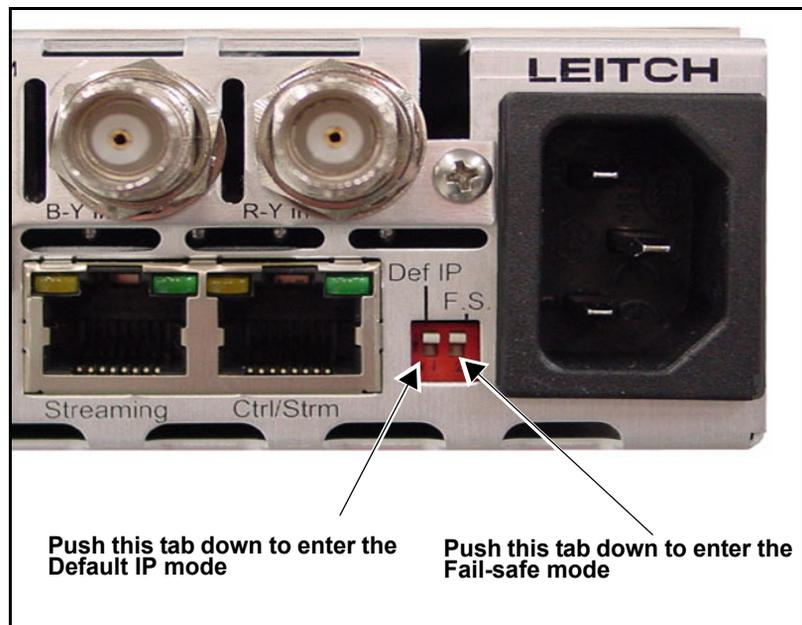

Figure B-11. Location of Def IP and FS DIP Switches
1. Push both **Def IP** and **F.S.** (Fail-safe) DIP switches at the back of the X75 unit to the down position, and then re-power the unit (see Figure B-11).